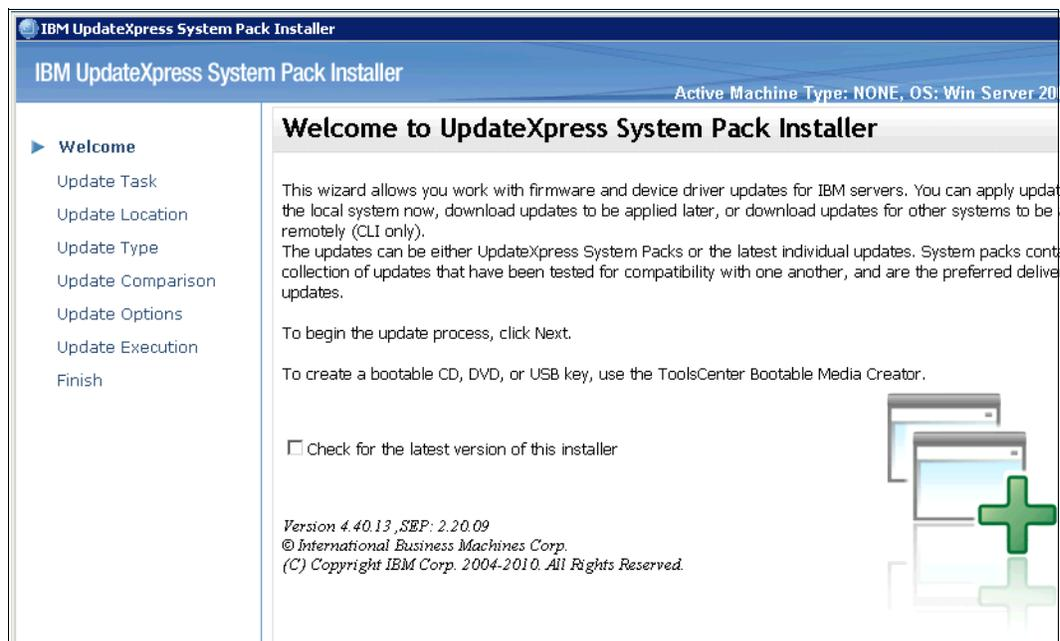

Figure 6-12 UXSPI Welcome window
3. After the Welcome window shown in Figure 6-12. opens, click **Next**.